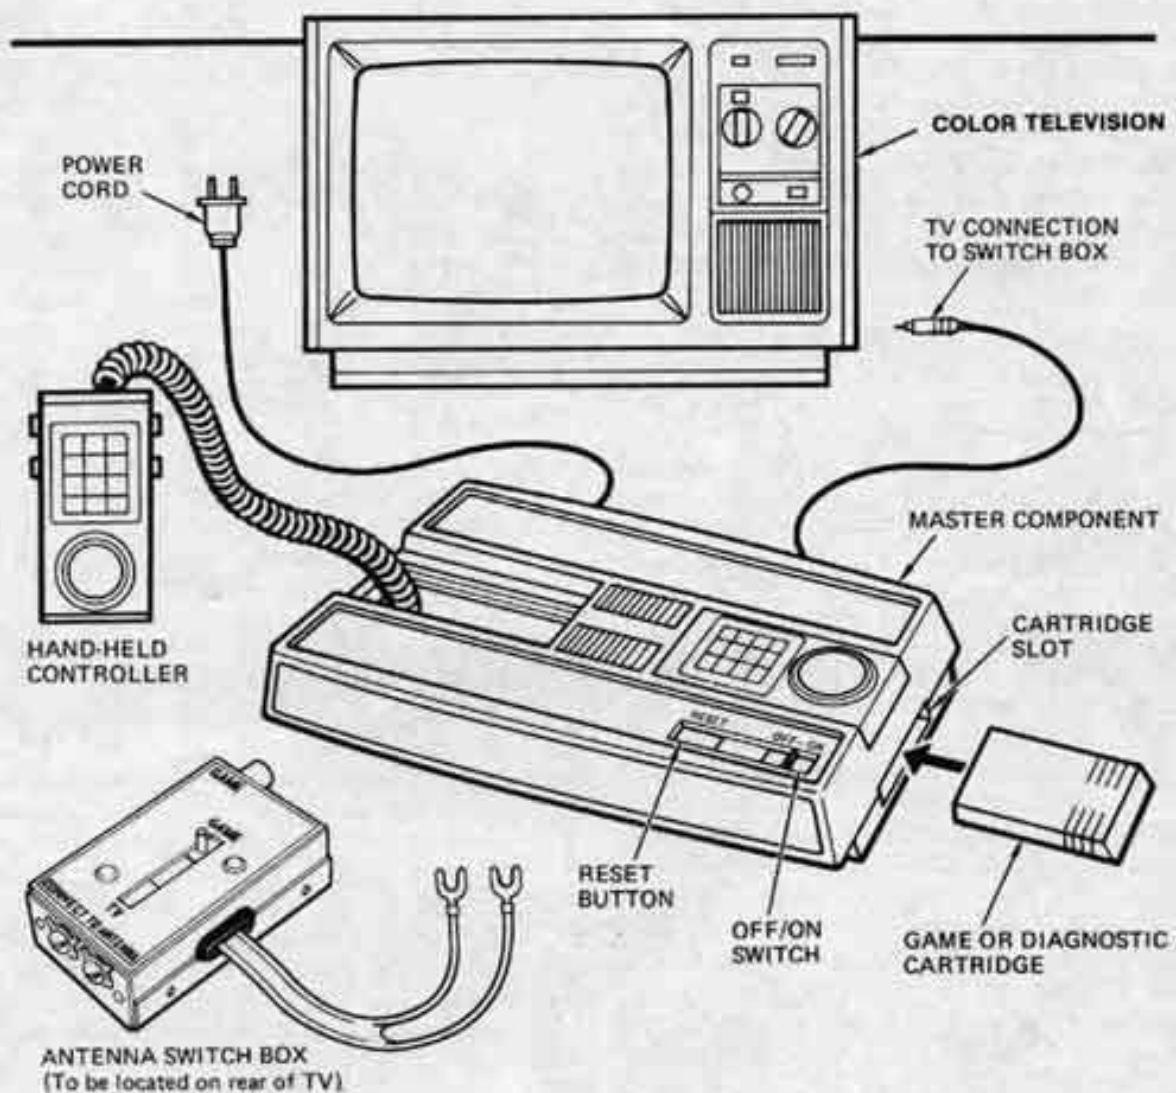

Figure 1-1. Mattel Intellivision Master Component
**1-1. GENERAL.** The Master Component (See Figure 1-1) is the fundamental component in the Mattel Intellivision system. It consists of a console assembly with two hand controllers, an antenna switch box, and a switch box cable. The Master Component is designed to operate in conjunction with a color television set and an Intellivision game cartridge.